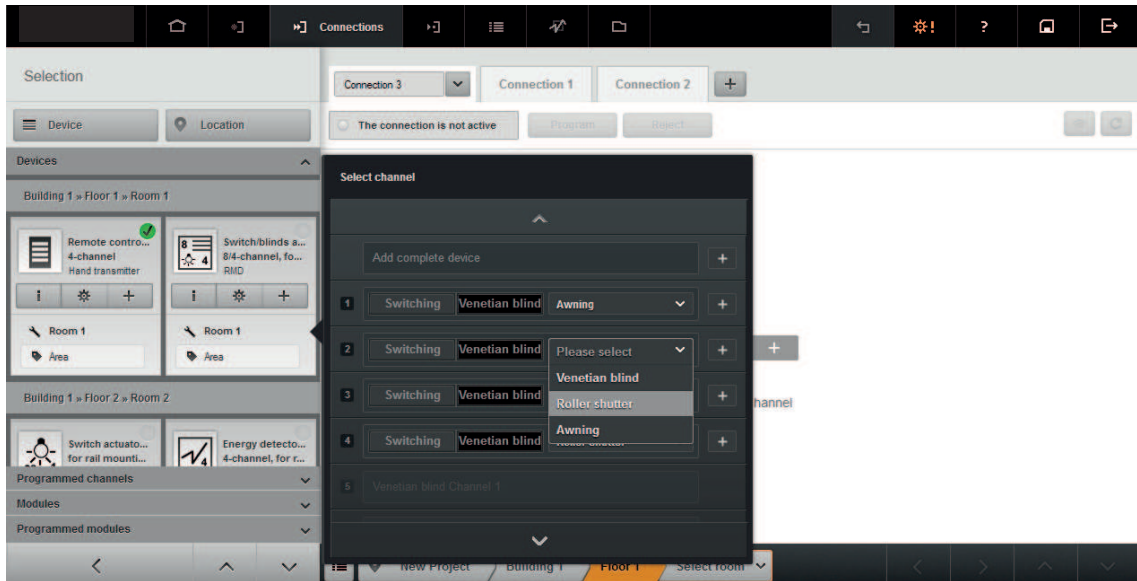

Figure 47: Selection window for channel selection (example of switching/Venetian blind actuator)
Two channels are required for the channel type "Venetian blind". The second channel is greyed out (Figure 47).
- Select the operating mode from the drop-down list (Figure 47).